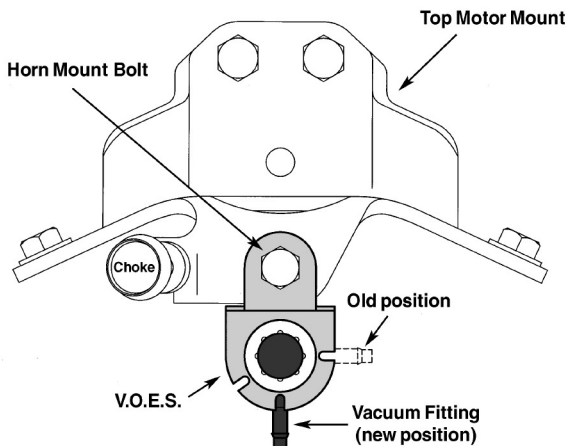

Figure 8: V.O.E.S. Installation
2. Rotate the VOES so that the vacuum line points downward (see Figure 8). Note that the VOES and its mounting bracket have indexing bumps and notches that must be aligned.
5. Sandwich the VOES assembly between the horn and the horn mounting bracket as shown in Figure 8 below.